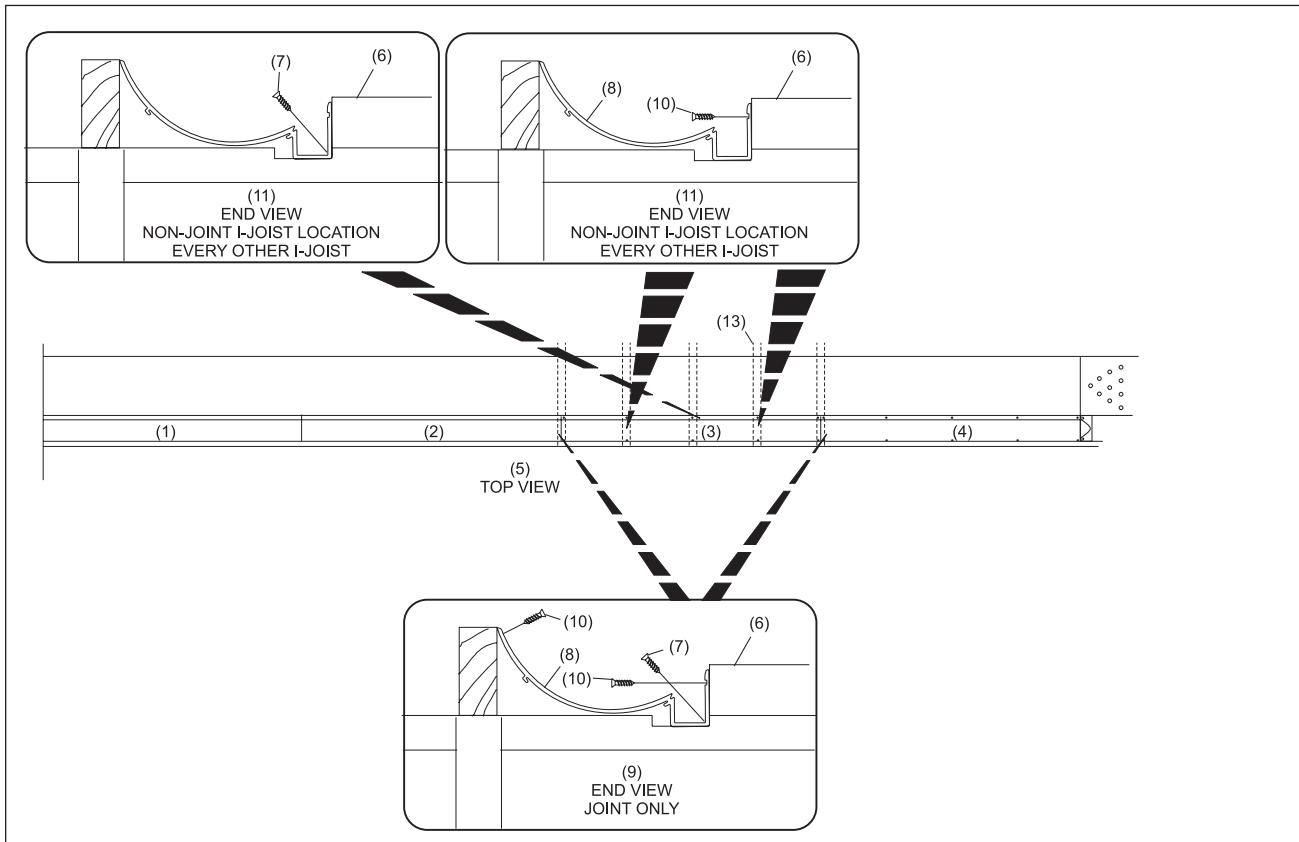

Figure 19. Attach Third and Fourth Sections of Gutter
6. With all four gutter sections in place and transition block installed, use #10 x 1-1/2" Robertson screws (P/N 11-081201-000) to attach the THIRD and FOURTH sections ONLY!!!! Refer to *Figure 19*.